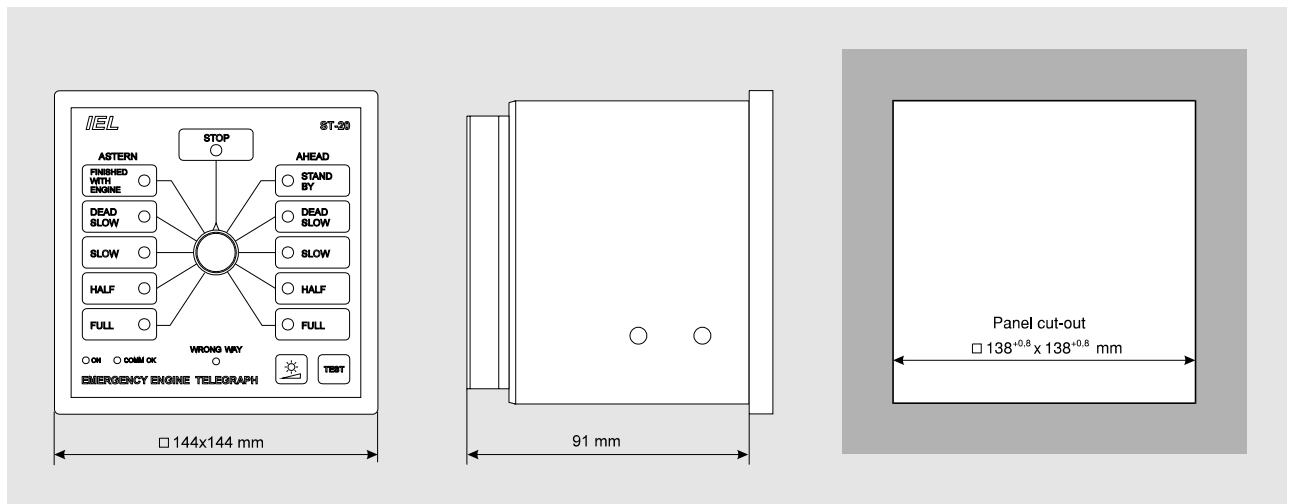
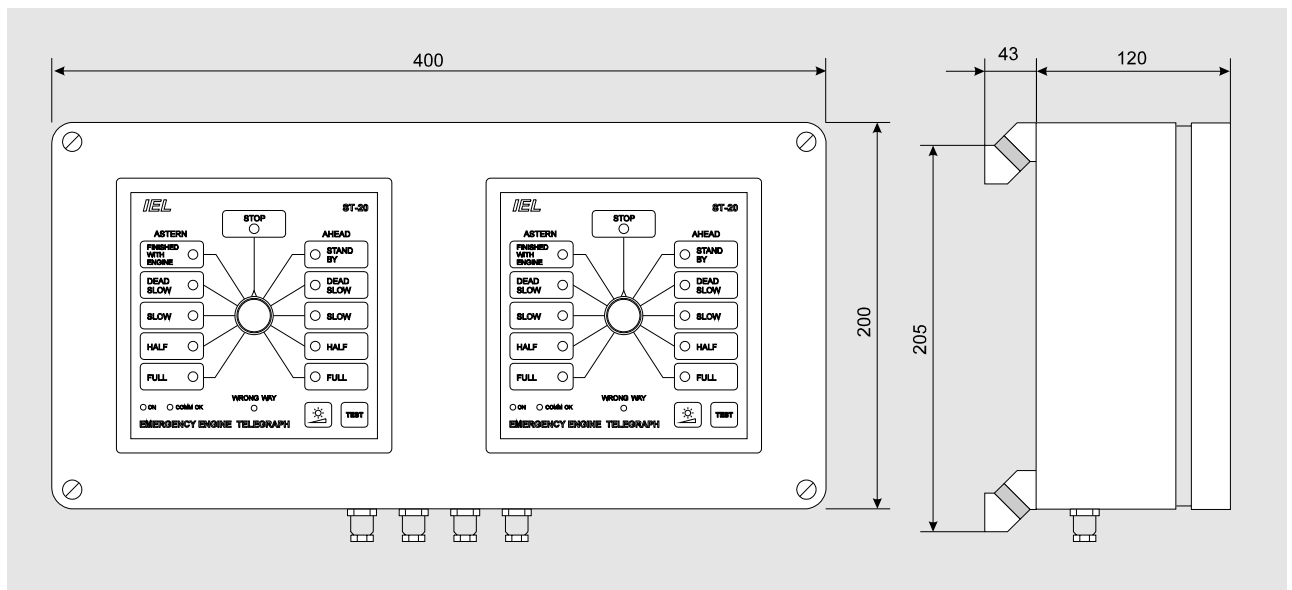

Figure 2. ST-20 - panel mounting
Figure 3. ST-20 - bulkhead mounting in engine room (option)
- dimensions according to fig.2 and fig.3